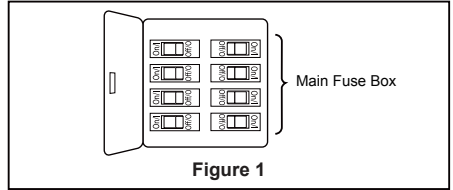

Figure 1
Your new ceiling fan will require a grounded electrical supply line of 120 volts AC, 60 HZ, 15 Amp Circuit. Electrical code requires use of a fan-rated outlet box to support the extra weight and motion associated with a ceiling fan. A fan-rated box will be labeled as such and typically supports up to a 70lbs ceiling fan. Fan-Rated Outlet Boxes vary in ratings and design. Ensure the ratings of your ceiling fan outlet box meet the requirements for the ceiling fan being installed. Figure 1, Figure 2 and Figure 3 depicts different structural configurations that may be used for mounting the outlet box.
Low-profile use (Figure 1)
To avoid possible electrical shock, be sure electricity is turned off at the main fuse box before hanging and wiring. (Figure 1)
1. Align the wide tab of motor assembly to the wide notch of ceiling bracket. Carefully secure the motor housing onto the mounting slots on ceiling bracket by twisting in a clockwise direction. Be sure the receiver and all wiring are tucked into the motor housing and is not pinched. Once the motor assembly is flush with your ceiling, replace the previously removed screws and securely tighten all three screws. (Figure 1)
1. Secure the blade to the bottom of the motor assembly using the 1/4"-20 pan head screw with lock washer/flat washer and skip the central hole on the blade. (Figure 1)
- ☐ 1. Secure the blade to the bottom of the motor assembly using the 1/4"-20 pan head screw with lock washer/flat washer. (Figure 1)